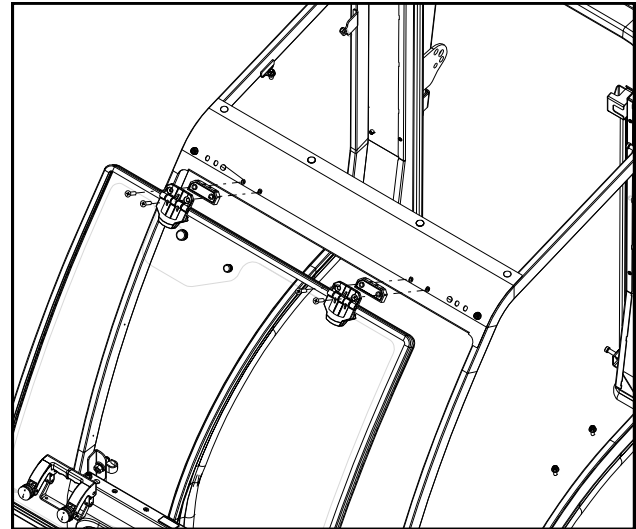

Fig. 11.1 (windshield installation)
11.1 Install the windshield to the windshield support using (1) plastic spacer block underneath each upper plastic hinge to space it off the windshield support. Snug fasteners, but **do not tighten fully**. See figure 11.1.